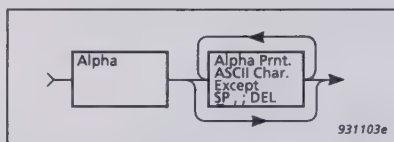

*Fig.11.3 General syntax for character data fields*
Character data must begin with an alphabetic character, either upper or lower case. This initial alphabetic character can be followed by any printable ASCII character (from 32 through 127 (decimal)), with the exception of a space (SP), a comma (,), a semi-colon (;), a colon (:), or the delete character (DEL). Fig.11.3 shows the valid form of entry for character data.